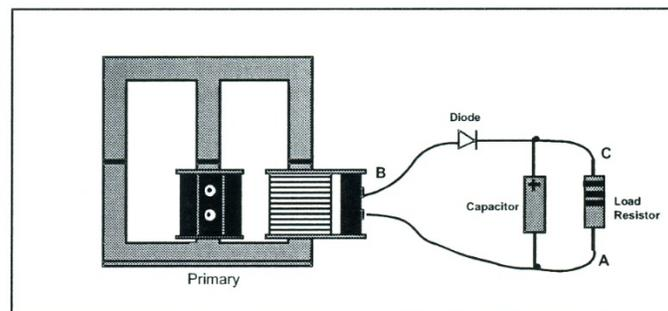

Fig. 7: secondary circuit with load resistor, diode, and capacitor.
23. Add a  $100\ \mu\text{F}$  capacitor in parallel with the resistor as shown in Fig. 7. Adjust  $V_P$  to 2 volts.